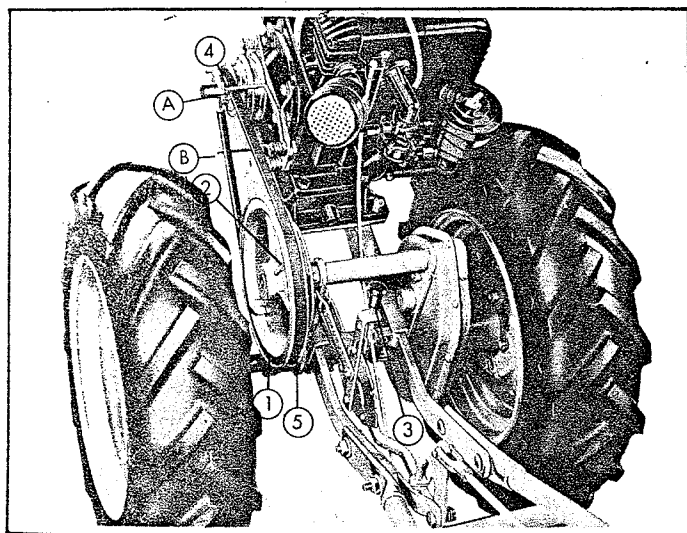

Fig. 1
Recommended for close cultivation and for use with weed cutter and saw in horizontal position. Miles per hour 1.25 to 1.85. To obtain "Lo Lo" speed see Fig. 1.
With pulley (1) mounted as shown (small pulley to the outside) raise pulley plunger (2). Fig. 1, and slide pulley (1) to the left until plunger drops into middle spot on pulley shaft.